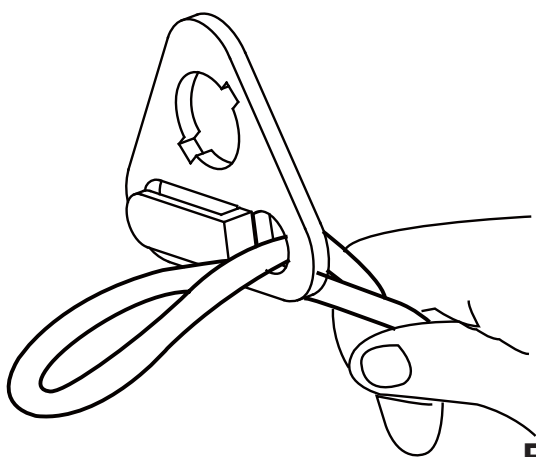

Fig. 5
USING THE CORD RETAINER (See Figure 5.-7.)
- Push the loop through the bottom hole in the retainer (See Figure 5).